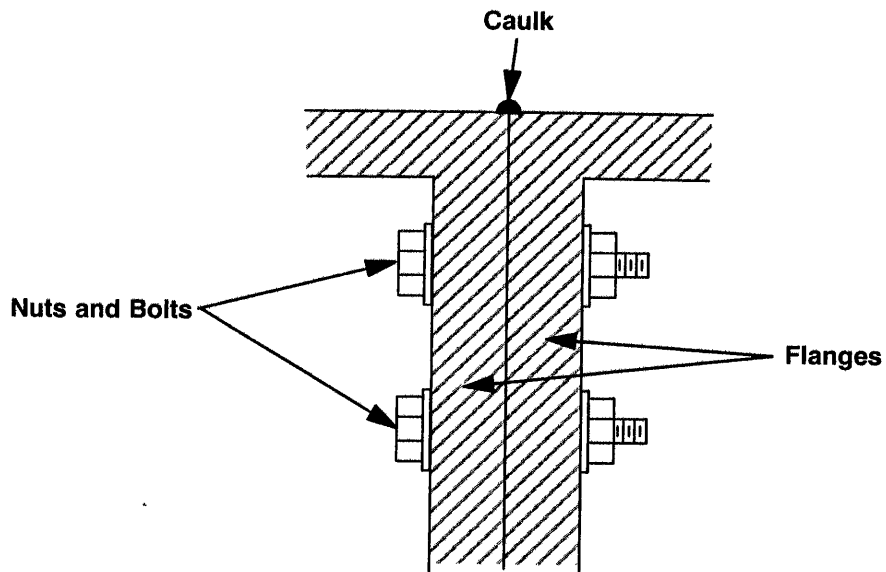

Figure 5.
17. Using the caulking provided (use no substitutes), carefully caulk the entire seam on exterior between the enclosure halves (see Figure 5).